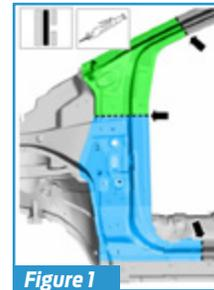

Figure 1
3. Determine the sectioning point and, using the air body saw, carefully cut the outer body panel only (**Figure 1**).